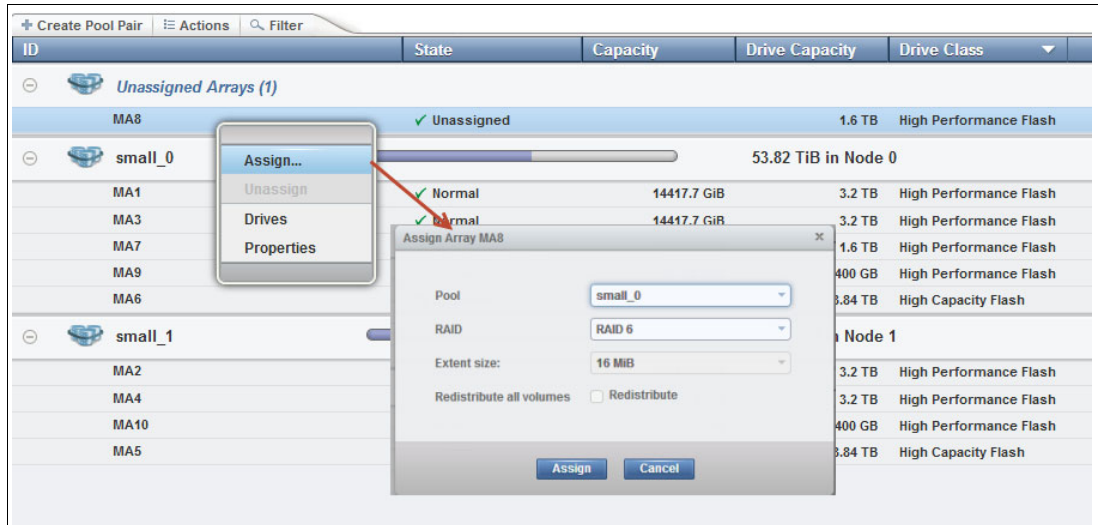

Figure 11-45 Manually assign an array to an existing pool
- Select an array and click **Assign** or **Reassign**, as shown in Figure 11-45 on page 313. This action opens the Assign Array window.